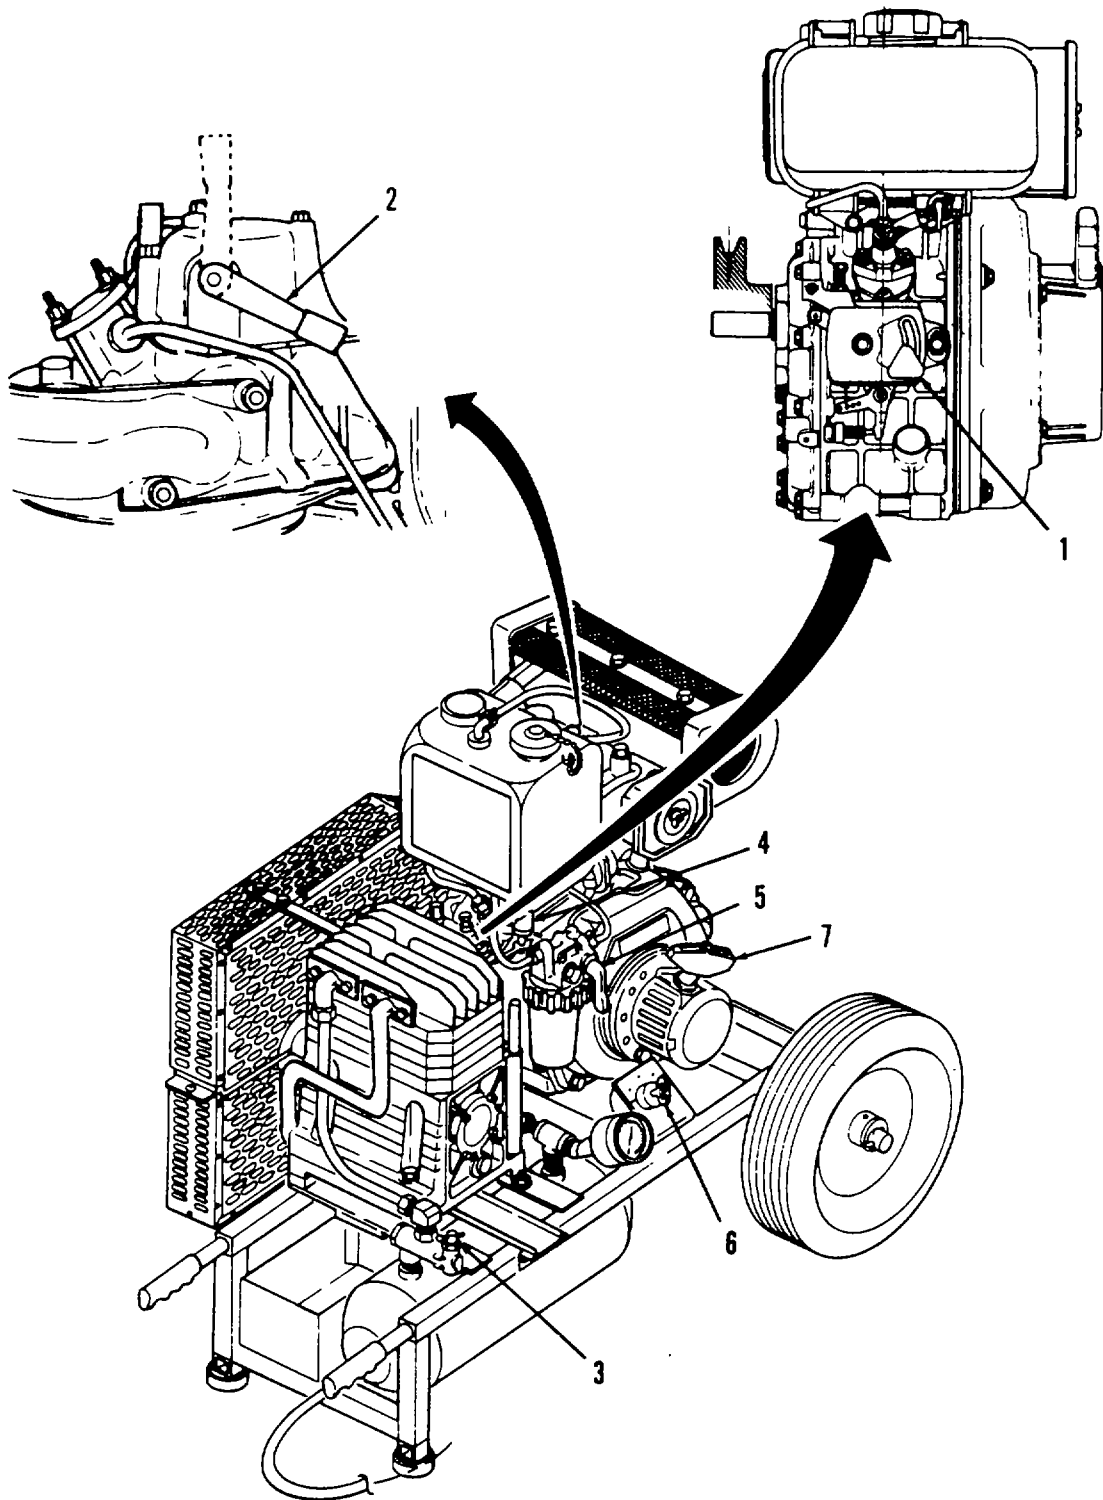

Figure 2-5. Starting and Operating the Air Compressor Unit.
(1) Starting Engine With Motor Starter. (Refer to Figure 2-5).
- (b) Loosen engine speed control lever knob (1) and move knob to the START full (downward) position. Tighten knob to hold in start position.
- (c) Push the decompression lever (2) down and release. It will return automatically to the normal position when the electric starter is activated.
- (d) Put the release lever of the unloader valve (3) into the vertical position to release all internal compressed air that may be in the system.
- (e) Position fuel tank three way fuel valve (4) to point arrow on valve handle toward belt guard.
- (f) Position fuel filter handle (5) to down position.
- (g) Insert key into the key switch (6) and turn the key to START position.
- (i) Put the lever of the unloader valve (3) in the horizontal position to allow the system to become pressurized.
(2) Starting Engine With Manual Recoil Starter. (Refer to Figure 2-5).
- (c) Push the decompression lever (2) down and release. It will return automatically to the normal position when the recoil starter is pulled.
(Refer to Figure 2-5.)
(3) (Refer to Figure 2-5). Hold the decompression lever (3) on the engine down and use the key switch (6) to run the electric starter motor to rotate the engine a few times to distribute oil inside the engine crankcase and in the compressor crankcase.
2-13. EMERGENCY PROCEDURES. Emergency shutdown of the air compressor unit is done by turning off the diesel engine as soon as possible. (Refer to Figure 2-5).